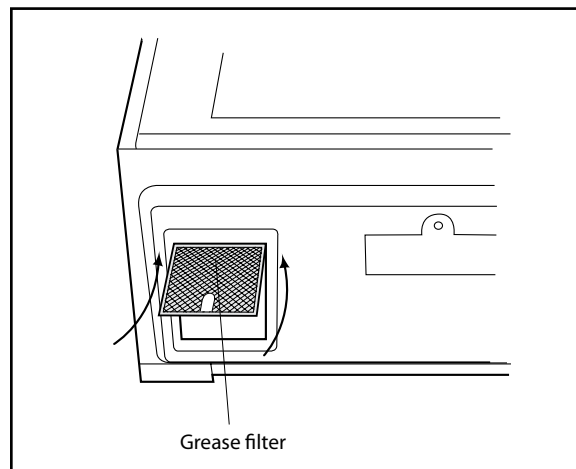

Figure 22
4. Install grease filters by fitting into the opening. Push back and up into place. See Figure 22.